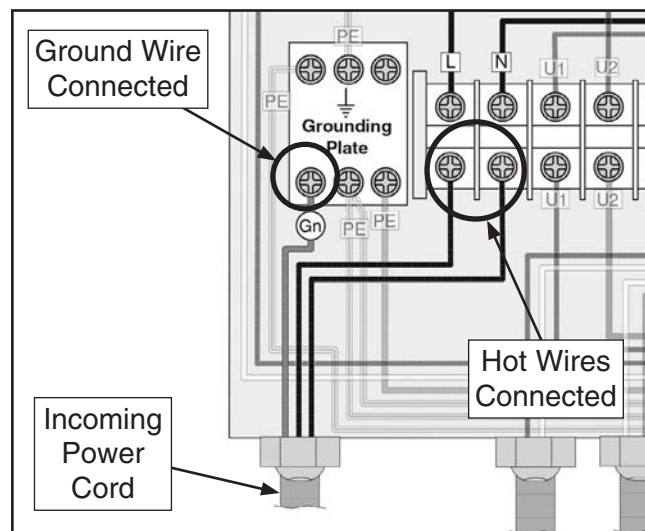

Figure 24. Incoming ground and hot wires connected.
3. Identify **L** and **N** terminals and grounding plate (**PE**), shown in **Figure 24**, then connect incoming hot wires and ground wire to those terminals.